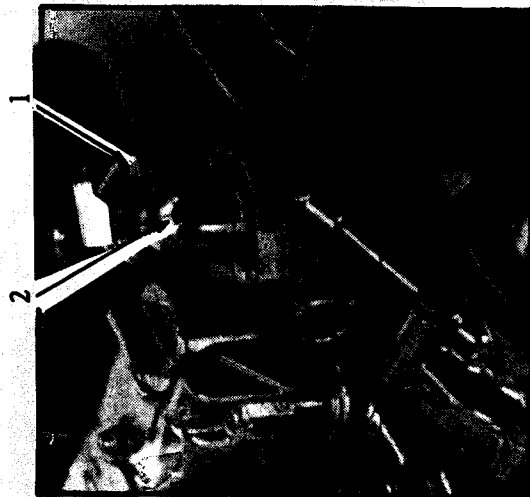

Figure 20
- 4) Disassemble the two positioning screws (1) in the upper body base and remove the upper body (2) of Fig. 20.
7) If the seal is damaged on disassembly, replace the seal and fit the upper cap with the two positioning screws (1) of Figure 20.